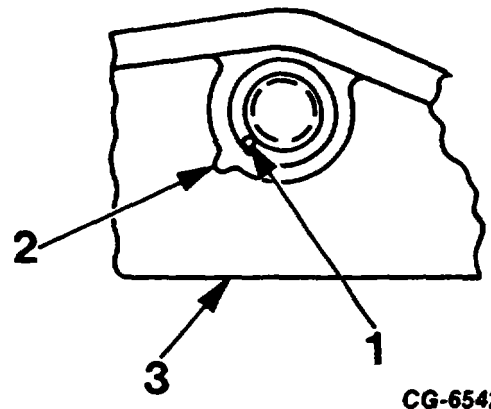

Figure 115. Installation of Oil Pump and Tachometer Drive Shaft Bearing in Crankcase
2. Align punch mark on new bearing with rib on crankcase (Figure 115). This will index oil hole in bearing with oil passage in crankcase.